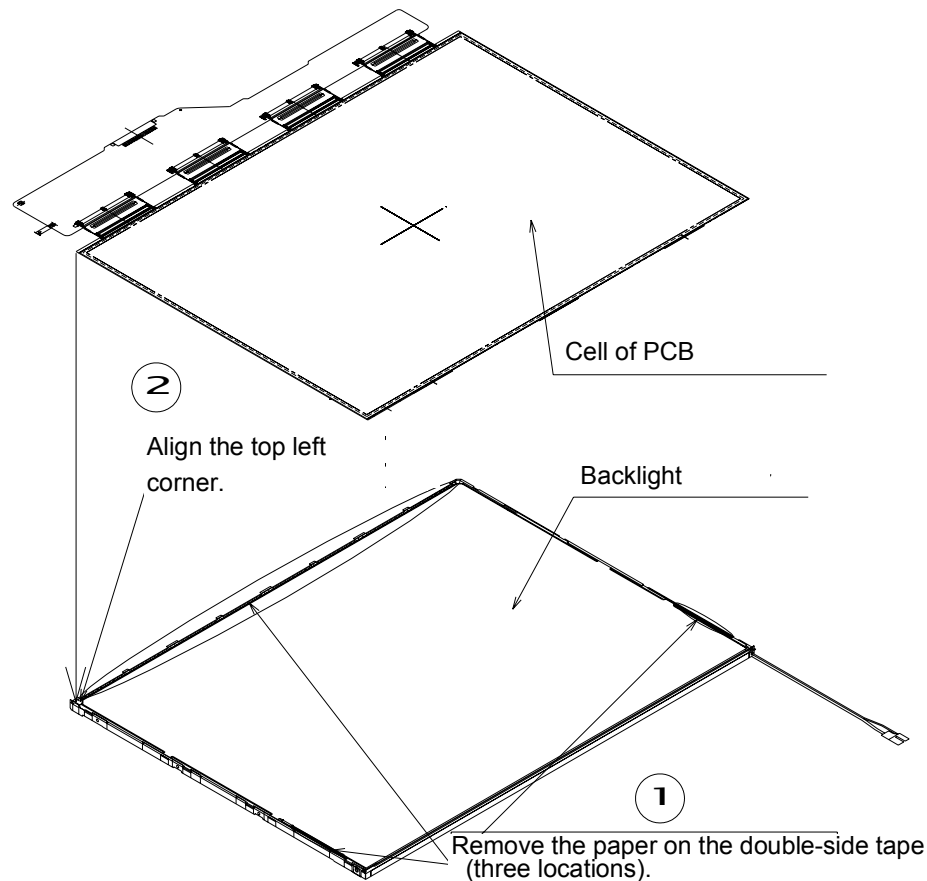

Figure 4-70 Replacing 14 Inch TMD fluorescent lamp (8)
1. Remove the paper (coated with a mold release) from the double-sided tape in the three areas on the replacement backlight unit. The areas are at the top and on both sides. See Figure 4-70.
CAUTION: Align the top left corner of the cell with the corresponding corner of the backlight unit, as indicated by ② in Figure 4-70.